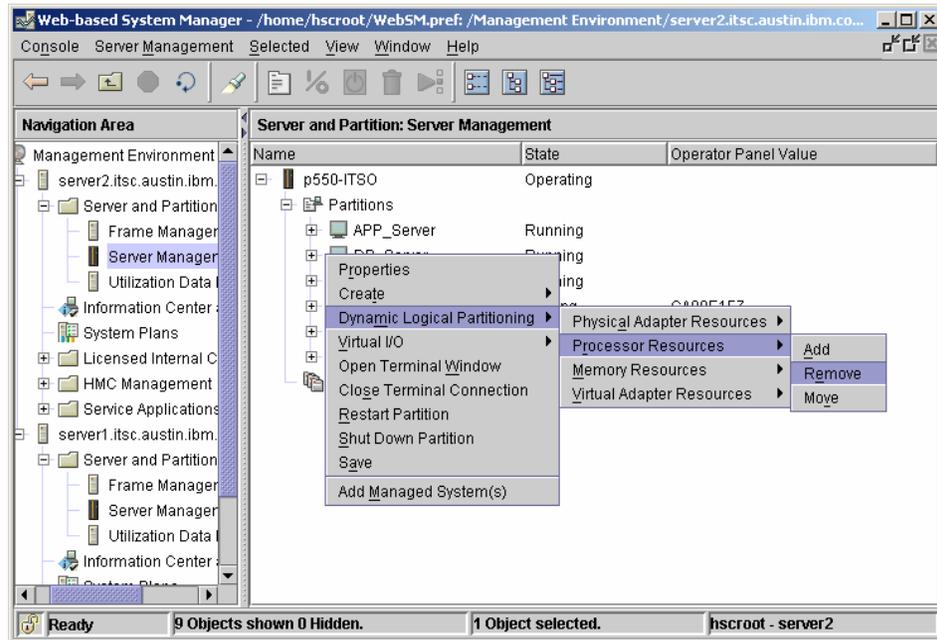

Figure 5-16 Dynamic LPAR operation CPU processing units
1. Right-click the logical partition where you want to initiate a dynamic LPAR operation, as shown in Figure 5-16.